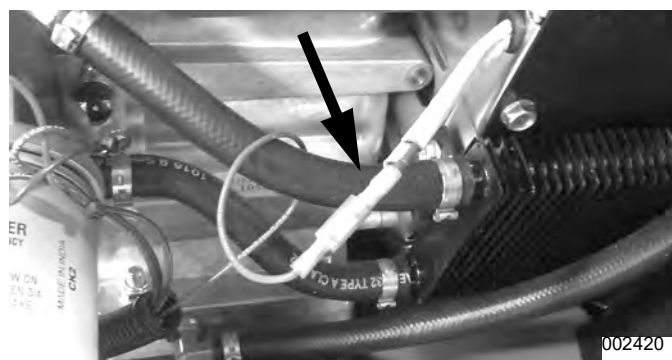

Figure 4-78. Wire 18 Connection
2. See Figure 4-78. Back probe the harness connector.